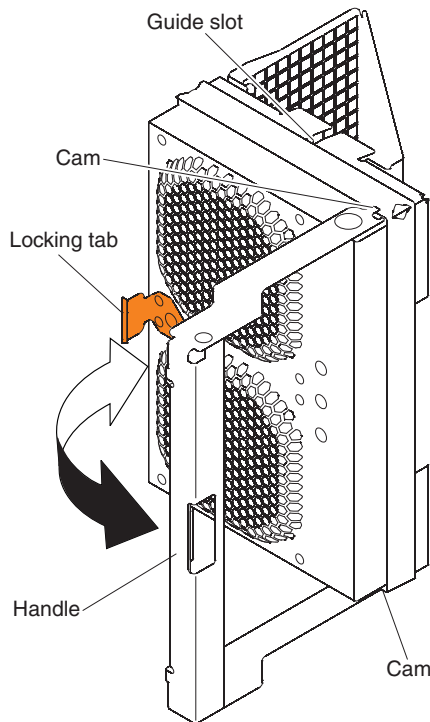

Figure 63. Removing a fan assembly
- a. At the rear of the storage expansion enclosure, remove the fan assembly (see Figure 63) by pressing on the locking tab holding the fan assembly handle in place; then, pull the fan assembly towards you.